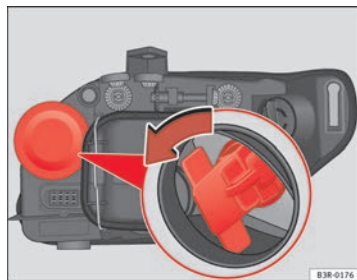

Fig. 209 Indicator bulb
- Remove the bulb holder by pulling on the grip and turning it anti-clockwise ⇒ fig. 209.